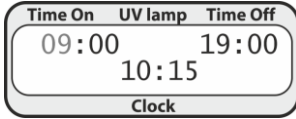
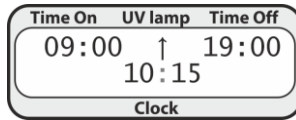

Figure 7. Auto mode setup
Figure 10. UVR-Mi in Auto mode, recirculator is on (↑ icon).
5.2.6 **Auto mode (figure 7, figure 10).** Select the mode (see 5.2.2-3). Setup the starting time (top line, left), ending time (top line, right) and current time (bottom line). Press **Run/Stop** to apply the changes (see 5.2.4).
- In Auto mode, recirculator follows the schedule, e.g. on figure 10, if started after 19:00, it will work until 19:00 next day; and if stopped after 9:00, it will remain idle until 9:00 next day.